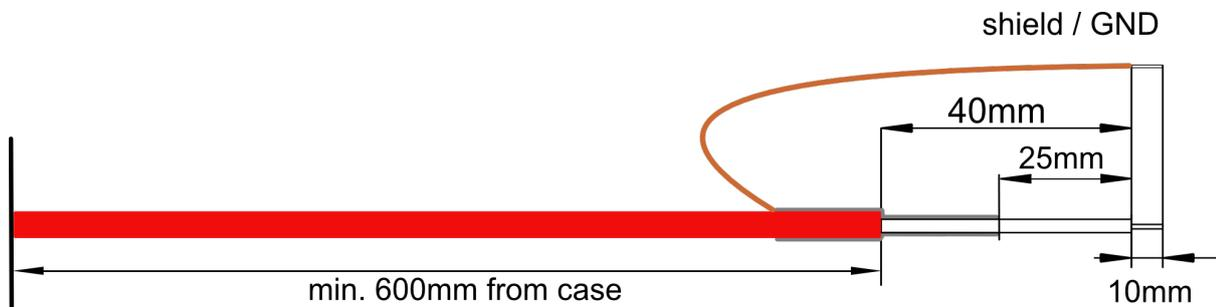

Figure 9: HV cable connection
Notes: 1) – Specifications for stability, ripple and noise are guaranteed in the range $2\% \cdot V_{nom} < V_{out} \leq V_{nom}$ 2) – the HV cable has a length of 600mm as standard, see Figure 9: HV cable connection
1) – the HV cable has a length of 600mm as standard, see Figure 9: HV cable connection